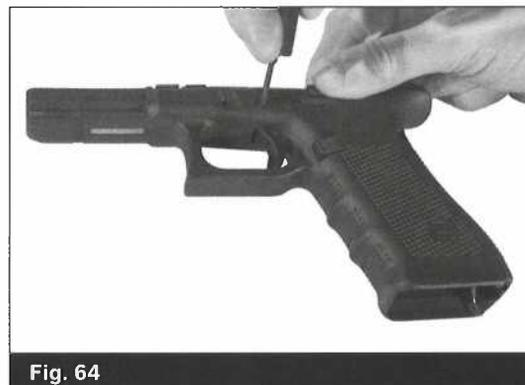

Fig. 64
- To facilitate trigger pin removal, move the slide stop lever forwards and backwards while applying pressure on the trigger pin. In order to get the trigger pin out, you must move the slide stop lever out of the trigger pin groove. When the slide stop lever is moved forward and backwards, it can be “unhooked” from the trigger pin groove and the pin may be removed from the right side of the frame. (Fig. 64)